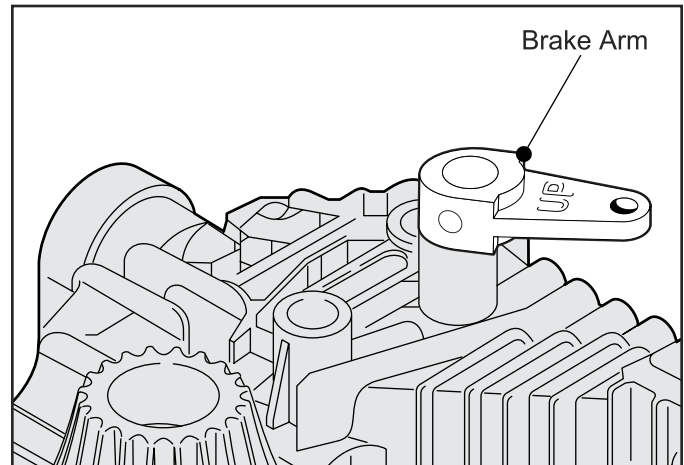

Fig. 10, Brake Arm Assembly
With the Brake Linkage in place, seat the Brake Shaft and the Brake Arm to their lowest position – **In order for the Roll Pin and the Brake Arm to align properly (Fig. 10), the Return Spring must not hinder the full positioning of the Brake Shaft.** Check linkage for proper operation, adjust if necessary.
4. From the reverse side of the Upper Case, mount the Brake Arm onto the Brake Shaft. The side of the Brake Arm with the word "UP" should be visible; then, align and secure with Roll Pin. (Fig. 10)